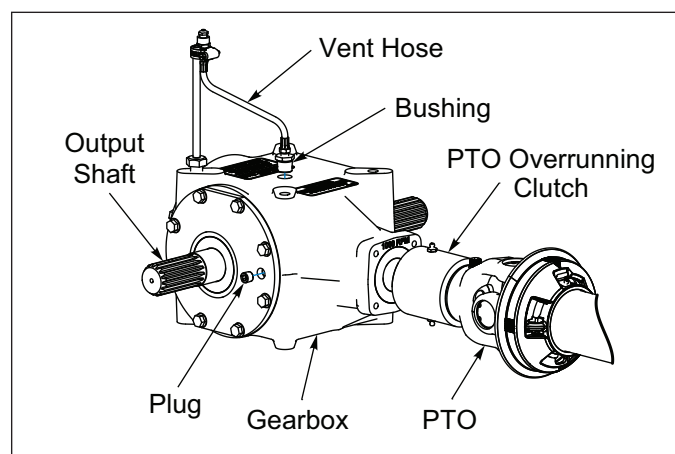

Figure 4-2: Gearbox
1. Check Gearbox Gear Oil Level before operation. On the side of the Gearbox you will find a Plug located in the front of the Gearbox Output Shaft. Remove the Plug to check the Gear Oil Level. If Gear Oil needs to be added, remove Vent Hose Bushing at the top of the Gearbox and fill the Gearbox with proper Gear Oil to the bottom of the Gearbox Plug Hole by the Output Shaft. Do Not overfill with Gear Oil. Install removed side Plug and Top Vent Hose Bushing. **See Figure 4-2.**